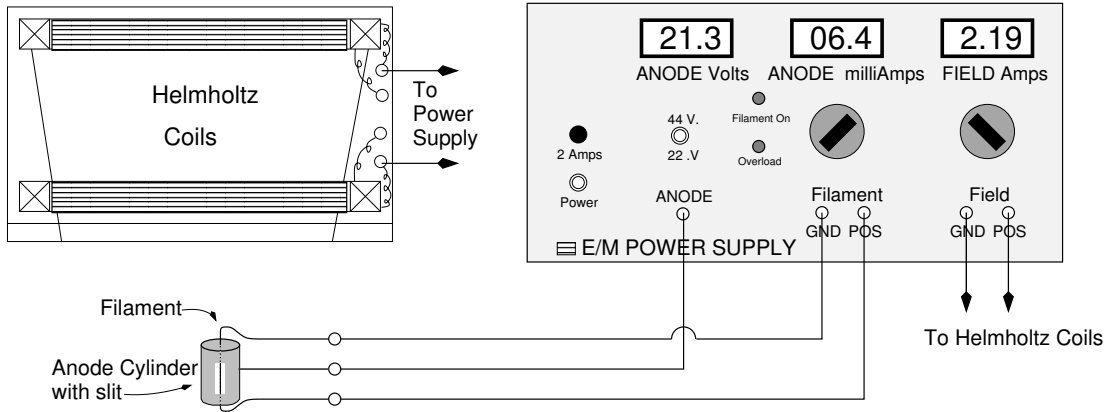

Figure 4: Basic wiring layout.
1. Connect the components as in Fig. 4 below. The current has the same direction in both coils of a Helmholtz coil.